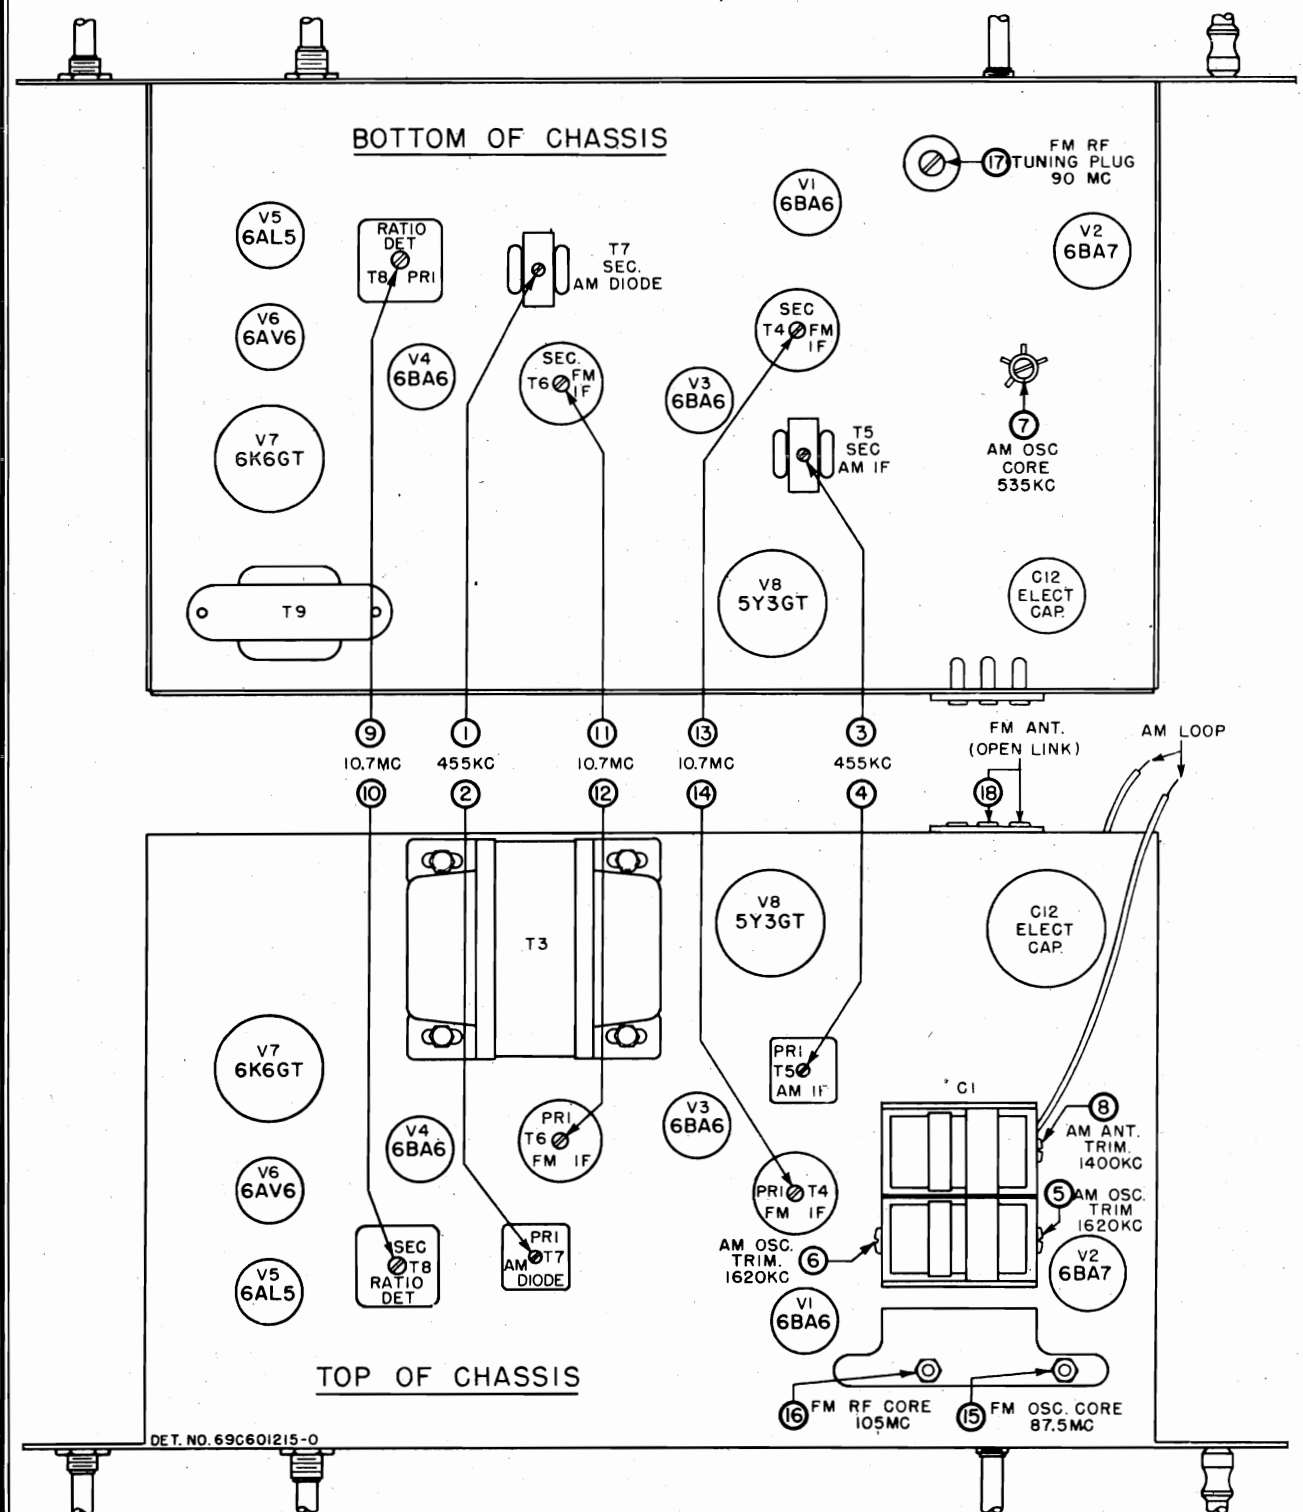

FIGURE 4. TUBE AND TRIMMER LOCATIONS
- Refer to Figure 4 for the location of all alignment trimmers and cores.